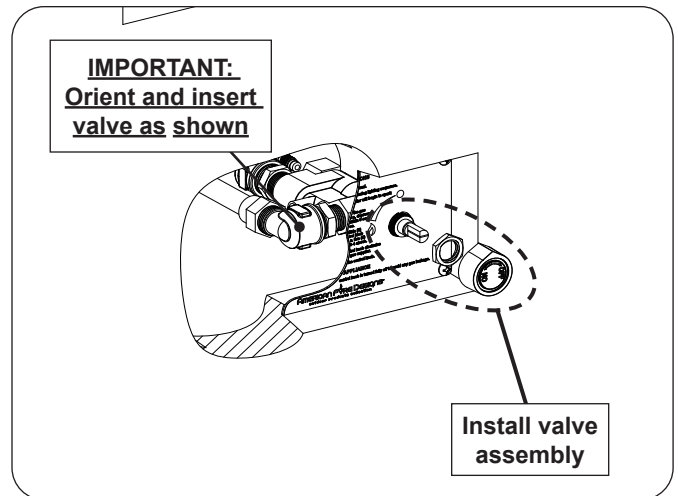

Fig. 23-2 Install valve assembly
12. Insert the valve assembly through the plate (in the housing). Replace the nut onto the valve stem, and tighten. Reinstall the control knob. See Fig. 23-2.
Important: Handle with care to prevent damage to the thermocouple and gas connections. Ensure the valve is oriented and inserted in the manner shown. See Fig. 23-2.